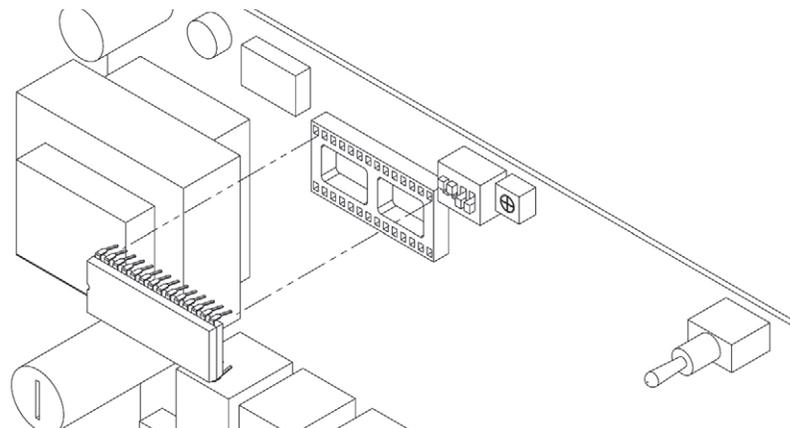

Figure 2 - Removal of Micro-Controller Chip
■ **Note:** Micro-Controller should be exposed directly below larger ribbon cable connection on mother board. See figure 2.
7. Lightly work small flat head screw driver in between socket and Micro-Controller chip on the right hand side by wiggling up and down. Refer to figure 2, distinguish between chip and socket.